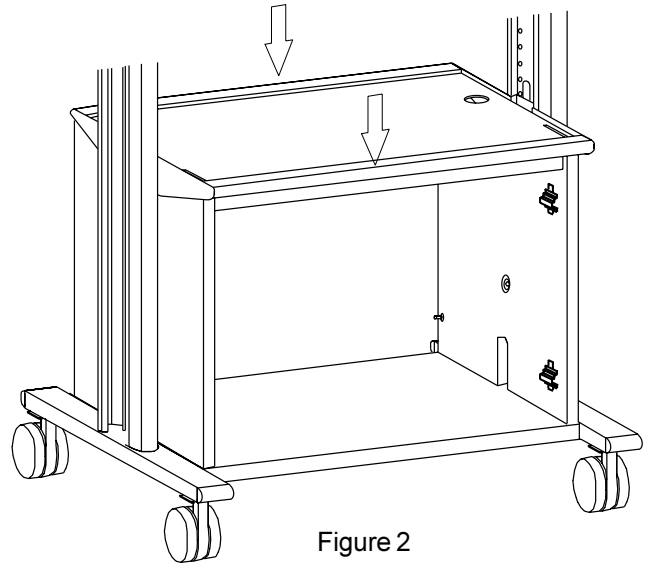

Figure 2
Position the cabinet on the bottom of the media cart. Secure in place using screws (GG) as shown in Figure 1. Once cabinet is secure, loosen the shelf and by holding onto the **MIDDLE** of the shelf **CAREFULLY** lower the shelf onto the cabinet. **LOOSELY** secure the shelf in place (See Figure 2).